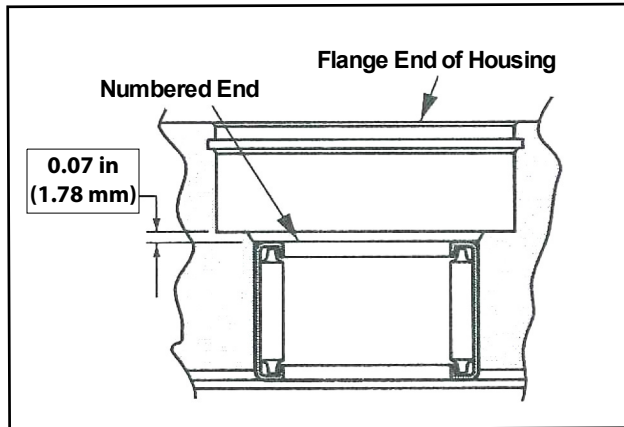

Figure 5-123. Housing Inspection
- Check the bearing (press fit) in housing. If needles remain in cage, move freely, and setting at the dimension shown in Figure 5-123., removal not required.
2. If necessary, press new bearing in housing to dimension shown in Figure 5-123. with the numbered end of bearing outward.